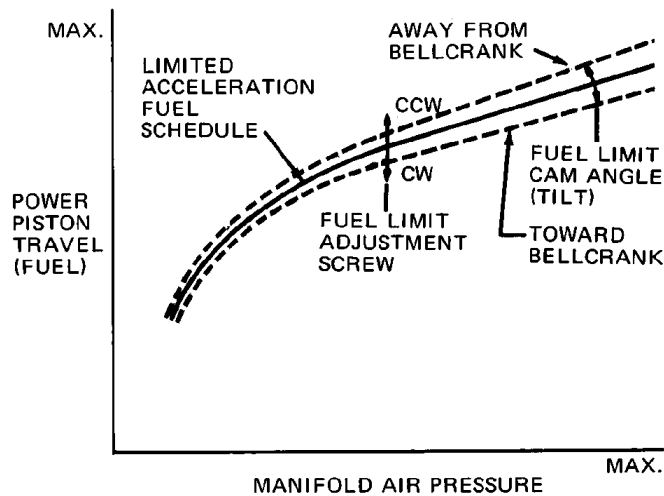

Figure 3-1. Typical Effects of Fuel Limit Adjustment Screw and Fuel Limit Cam Angle (Tilt) on Fuel Limiting Schedule
Figure 3.1 illustrates the interrelationship and individual effects of the fuel limit adjustment screw and fuel limit cam angle (tilt) on the fuel limiting schedule. An adjustment of the fuel limit screw raises (or lowers) the schedule a like amount over its entire length. An adjustment of the fuel limit cam alters the slope of the schedule, with the greatest change occurring at the high end. The contour of the schedule is a reflection of the cam profile and may be non-linear as illustrated or linear (straight line).
20. Following adjustment of the fuel limit cam, recheck and readjust the fuel limit adjustment screw as necessary. Repeat steps 11 through 19 until no further adjustment of the fuel limit adjustment screw or fuel limit cam is necessary. Figure 3-1 illustrates the interrelationship and individual effects of the fuel limit adjustment screw and fuel limit cam angle (tilt) on the fuel limiting schedule. An adjustment of the fuel limit adjustment screw raises (or lowers) the schedule a like amount over its entire length. An adjustment of the fuel limit cam alters the slope of the schedule, with the greatest change occurring at the high end. The contour of the schedule is a reflection of the cam profile and may be non-linear as illustrated or linear (straight-line).